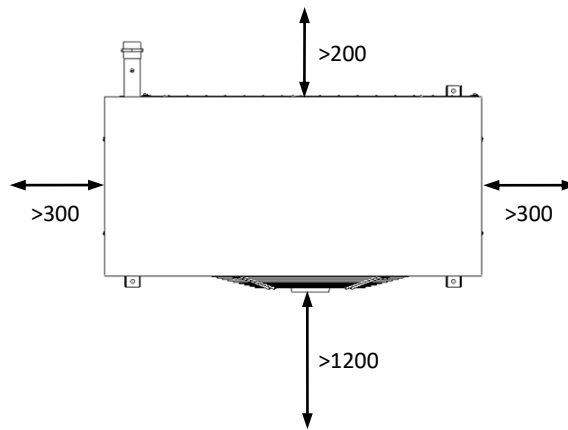

Figure 2.3. Minimum recommended service areas around the AU12 unit (expressed in mm).
- Do not attempt to guide the air that enters or exits the AU12 unit. The unit must be installed outdoors without any type of piping and respecting the minimum distances specified in Figures 2.3 and 2.4.